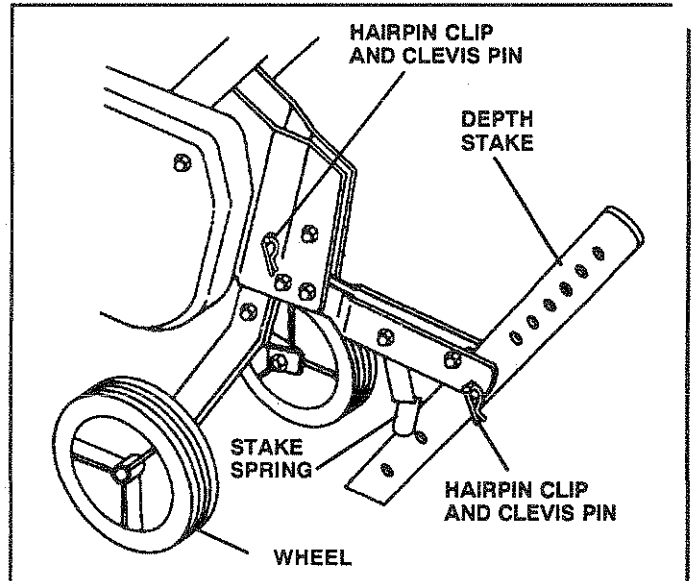

FIG. 6
DEPTH STAKE (See Fig. 6)
WHEELS (See Fig. 6)
- Tip depth stake forward until it is held by the stake spring (See Fig. 6).